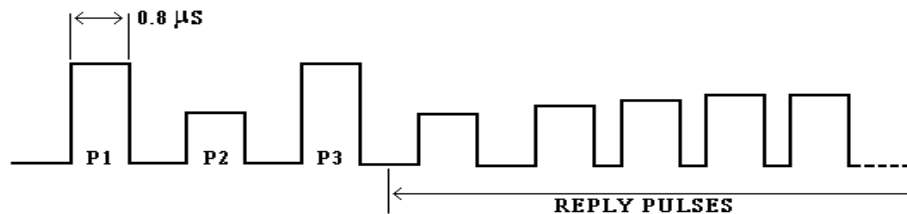

Figure 4. Pulse train (example).
- Select radar test set Menu 11, **MODULATION** to **ON**. Set TI **MODE** switch to **1, 2, 3/A, and C**, and adjust oscilloscope to observe presence of complete interrogation pulse trains (see fig. 4), making sure that TI **ACCEPT** lamp is lit in each mode.